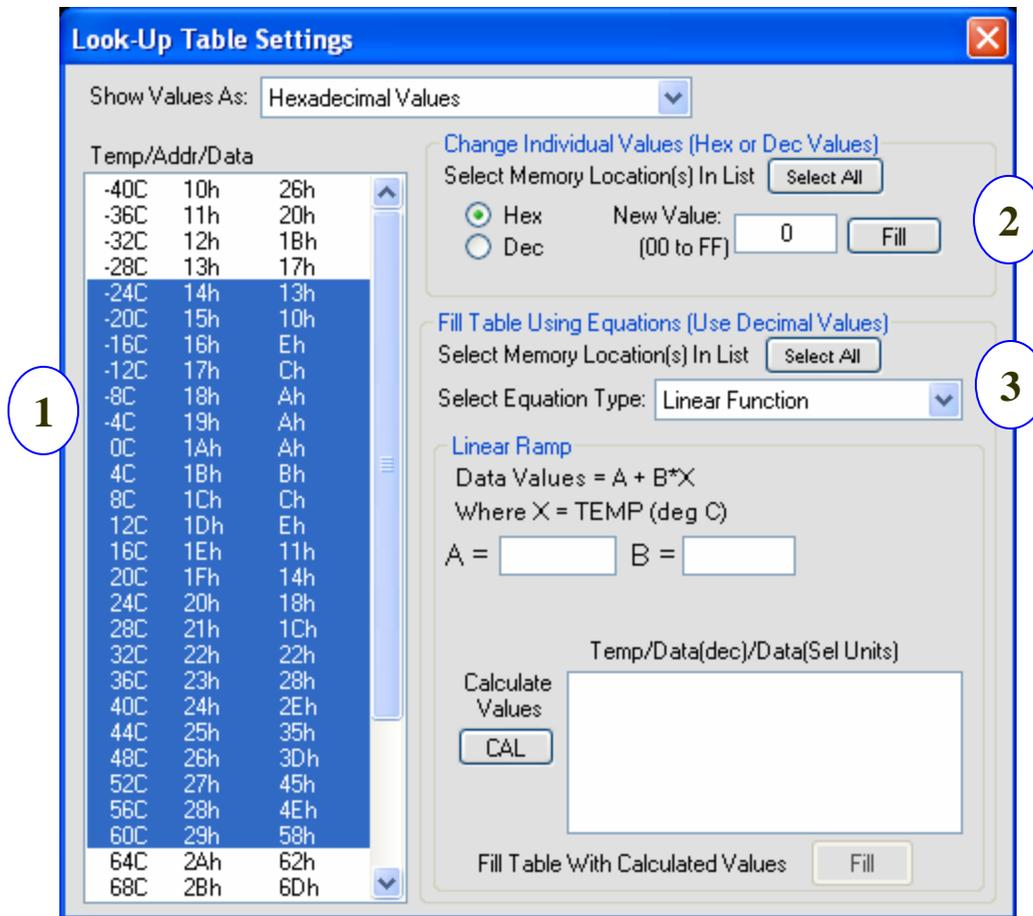

Figure 4. Overview.
6. **Instant On Settings:** HFRD-25.2 provides an optional “Instant-On” feature that allows the laser driver to start up to the correct laser bias and modulation current values almost instantly after a power cycle or transition from disable to enable state. (See HFRD-25.2 document for additional details.) Press “Set Values” to open the window shown in Figure 4.